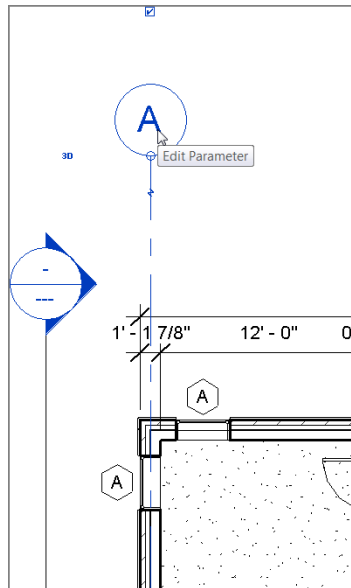

FIGURE 8.16: The grid is now named A.
8. Click in the bubble, and rename it A, as shown in Figure 8.16.